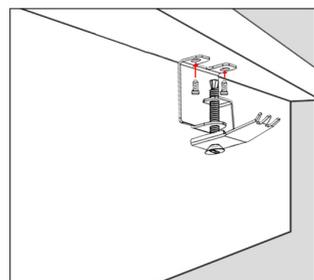

Figure 3
4. Attach mounting clips to the sink body using the 2 short screws provided. Make sure the hooked side of the mounting clip is facing away from the sink (Figure 3).